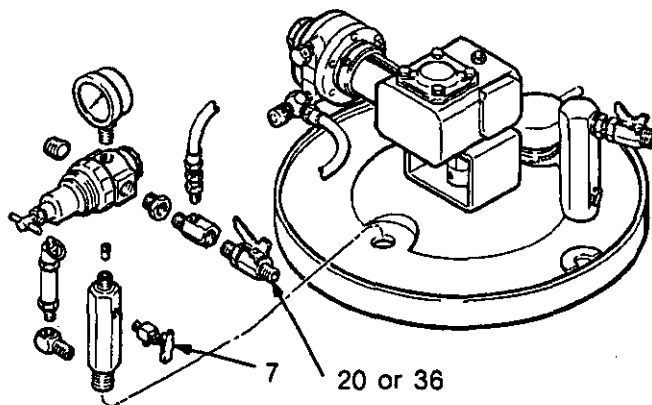

Fig 1
2. Close the air inlet valve (20 or 36). Refer to Fig 1.
3. Open the drain cock fitting (7) by turning it counterclockwise.
5. Leave the drain cock fitting (7) open until you have reinstalled the cover or fill port.